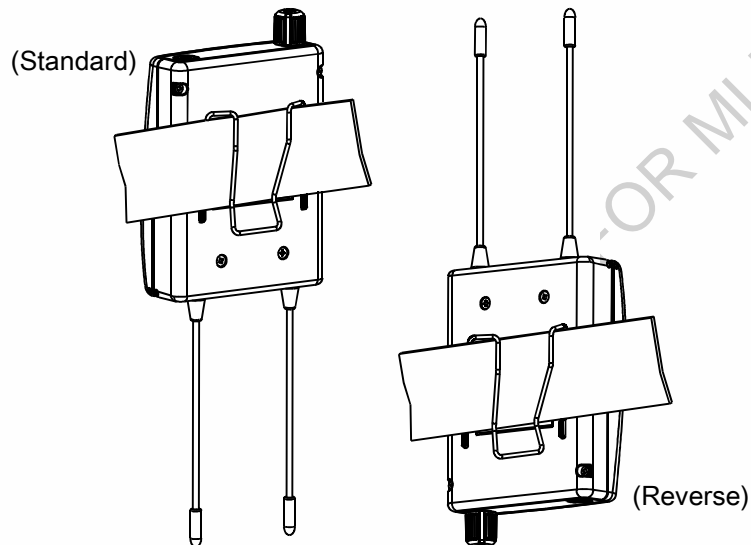

Fig. 2
- ❶ 3.5 Ø Stereo Earphone Jack.
- ❷ Power Switch and Volume Control.
- ❸ LCD Screen.
- ❹ SET ▼ Button: To decrease settings.
- ❺ SET ▲ Button: To increase settings.
- ❻ ACT Sync Window.
- ❼ MODE Button.
- ❽ Battery Compartment.
- ❾ Battery Compartment Cover.
- ❿ Belt Clip, Fig. 2.